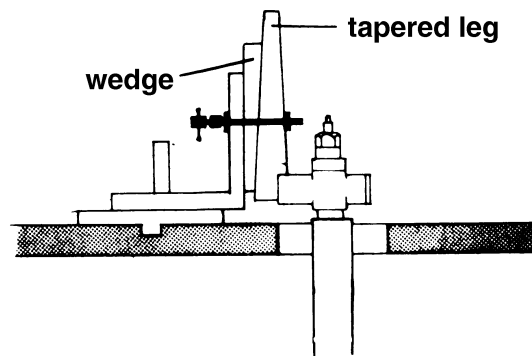

Figure 65
**Note:** If the leg is tapered, use a wedge to place the side facing the cutter into a 90 degree vertical position as shown in Figure 65.